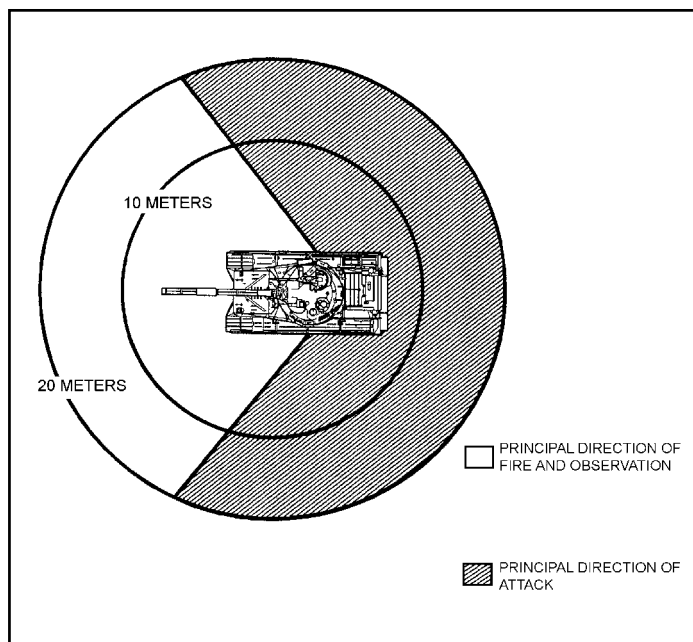

Figure 6-3. Limited visibility of armored vehicles.
b. An armored vehicle without close protection (dismounted infantry) in woods, MOUT, or other restrictive terrain is vulnerable to close attack. This type of attack is most likely to originate from well-armed infantry-type teams organized into armor-killer teams. (Noninfantry units may also be required to perform this mission.) Skilled firers from these teams should engage the suspension or engine compartment of vehicles that have applique or reactive armor. When an armored vehicle is buttoned up—all hatches are closed and personnel are inside the vehicle—the crew cannot see well enough to protect itself from close attacks or attacks from the flanks or rear. The personnel inside cannot see anything within 10 meters of the vehicle, and they cannot shoot at anything (using their main guns) within 20 meters. The white area in Figure 6-3, page 6-4 shows the most favorable direction of attack when the turret is facing to the front; the gray area shows the vehicle's principal direction of fire and observation when the turret is facing to the front.